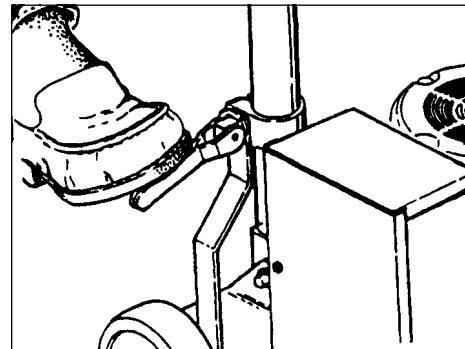

Figure 1
2. Raise and lock the handle to the upright position. To lock the handle, press down on the locking lever with your foot. See figure 1.